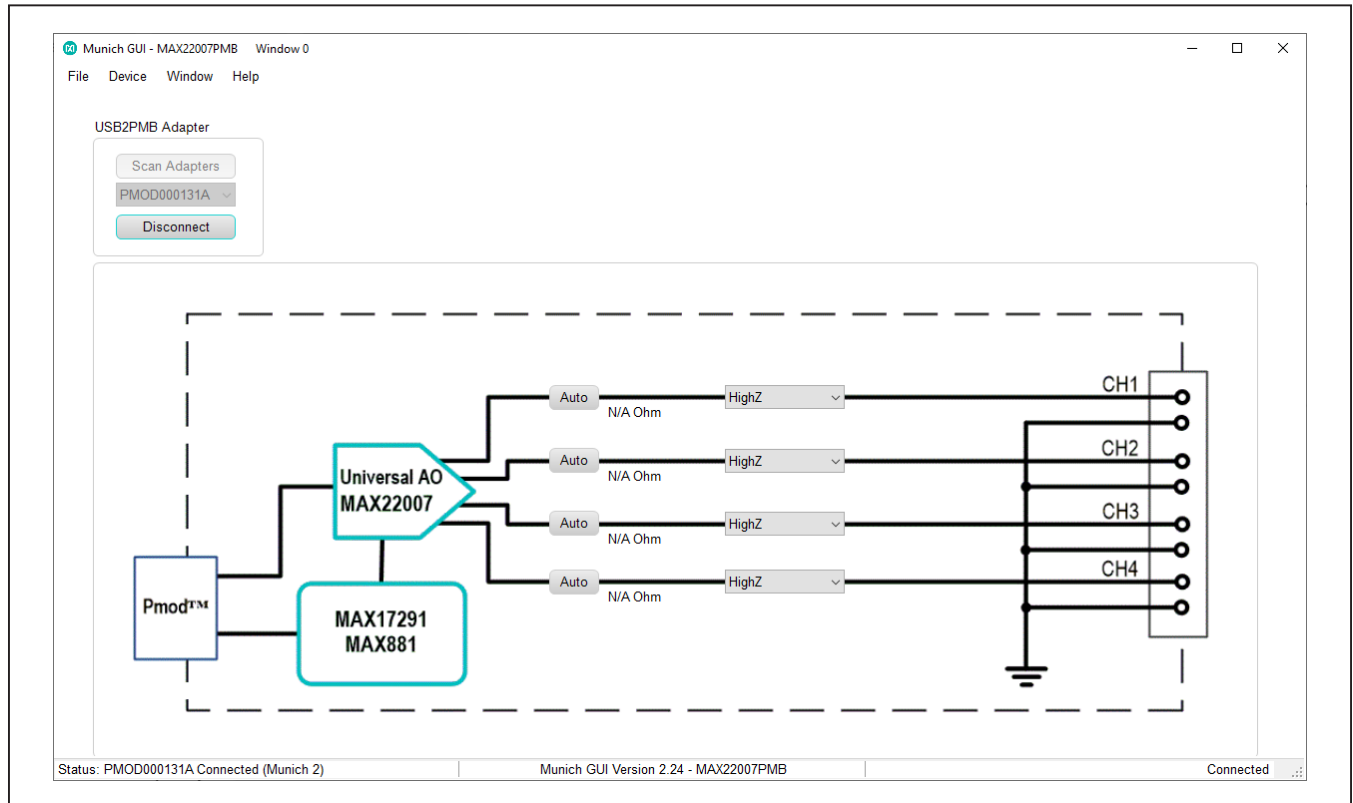

Figure 3. Munich GUI Software
- 7) Under the **USB2PMB Adapter** module, select **Scan Adapters** and select the **PMODxxxxxxA** where the “xxxxxx” represents a 6-digit serial number. Click **Connect**. The **Status Bar** on the bottom left of the GUI should read “**PMODxxxxxxA Connected (Munich 2)**”. See Figure 3 for an example of the Munich GUI during operation.